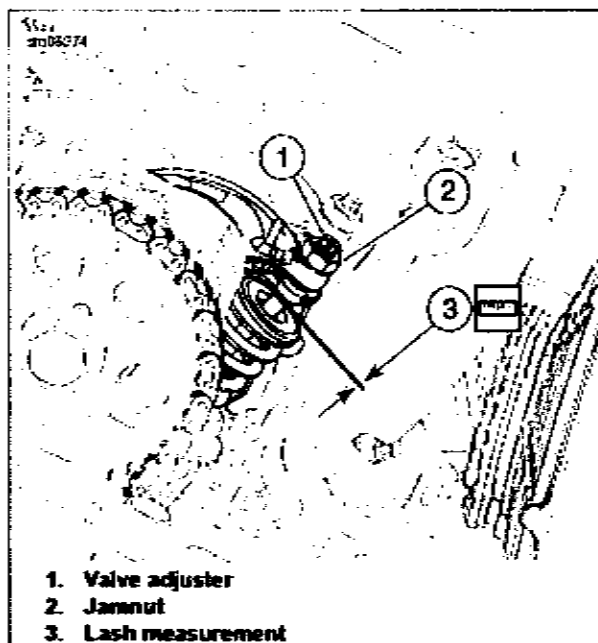

Figure 2-31. Valve Lash
1. See Figure 2-31. Loosen jamnut (2) using **TAPPET ADJUSTING WRENCH**.
2. Adjust valve lash (3) to specifications. Refer to Table 2-11.
- a. Turn valve adjuster (1) clockwise to reduce valve lash. Turn valve adjuster counterclockwise to increase valve lash.